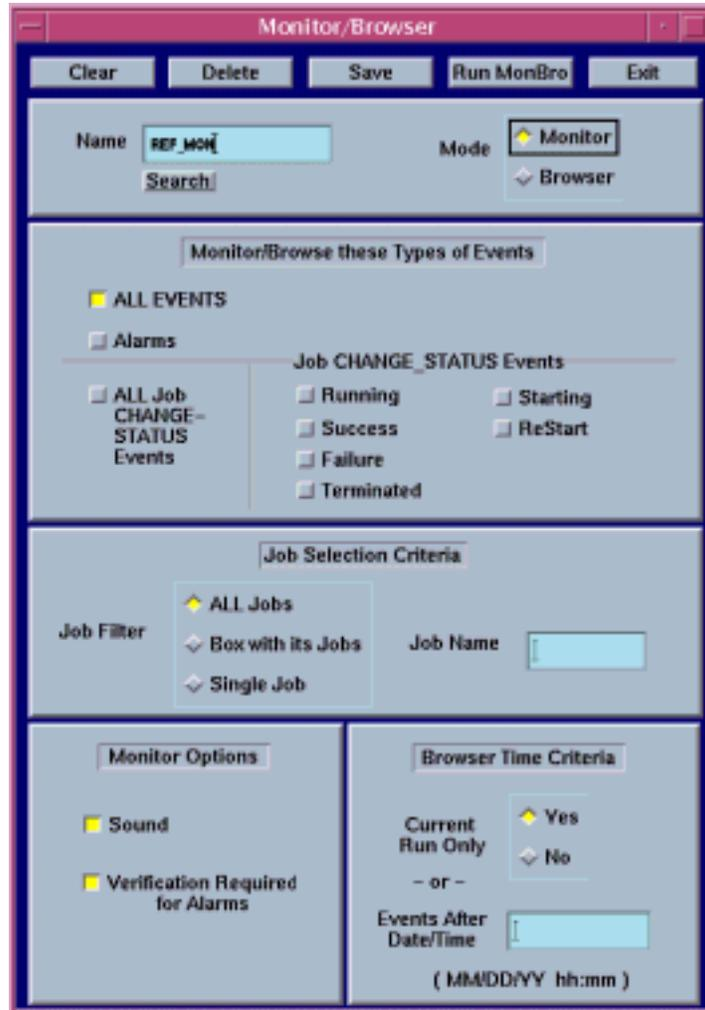

Figure 60. Monitor/Browser GUI
- The **Monitor/Browser** GUI (Figure 60) is displayed.